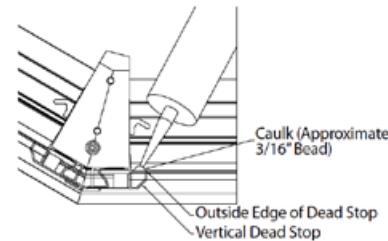

Figure C2
5. Starting at one of the 2 vertical dead stops, run a moderate (3/16") bead of caulk down the dead stop using the outside edge as a guide. Then repeat process for remaining vertical dead stop on other side of frame opening. (**Figure C2**)